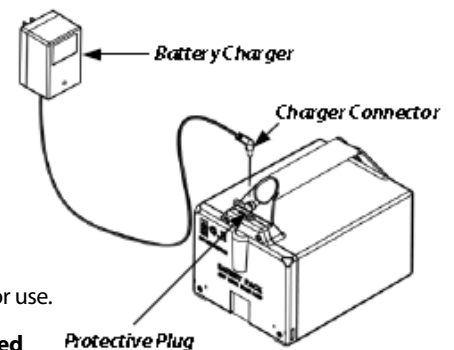

Figure 1
1. Remove the Protective Plug from the Charger Receptacle on the Battery and plug in the round Charger Connector (**Figure 1**).
3. The NEUTON Charger will take between eight (8) and fourteen (14) hours to recharge a completely discharged Battery. A Battery that may not be completely discharged may take a shorter amount of time to completely charge. Once charging is complete, the LED on the Charger will change from RED to GREEN indicating that the Battery is fully charged and is ready for use.